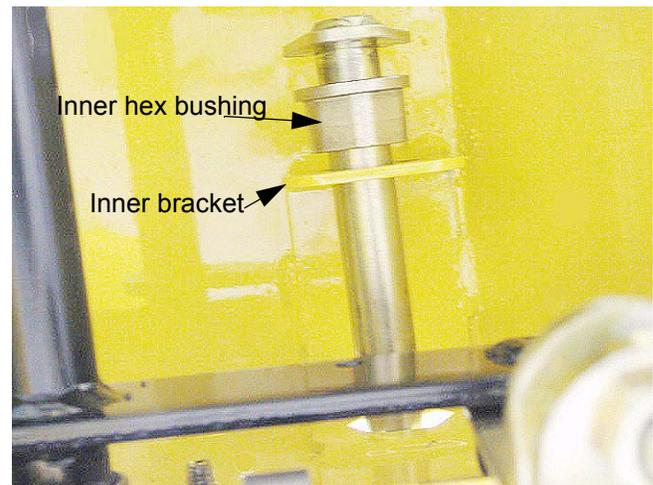

Figure 12.8
- 12.8. Maneuver the steering input shaft into a vertical position so that it and the inner bushing can be removed. See Figure 12.8.